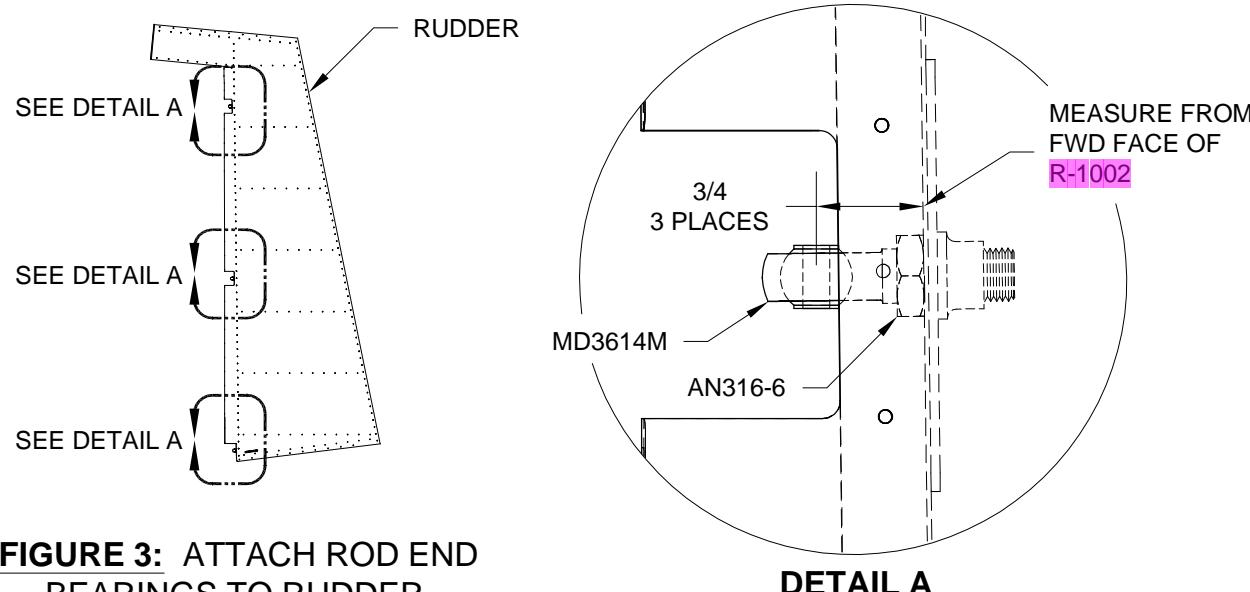

FIGURE 3: ATTACH ROD END BEARINGS TO RUDDER
Step 5: Thread the AN316-6 jam nuts onto the MD3614M rod end bearings and thread the rod end bearings into the R-1002 Rudder Spar as shown in Figure 3, Detail A. Measure from the center of the pivot bolt hole to the forward face of the rudder spar. As a starting point use the dimension shown in Figure 3, Detail A.